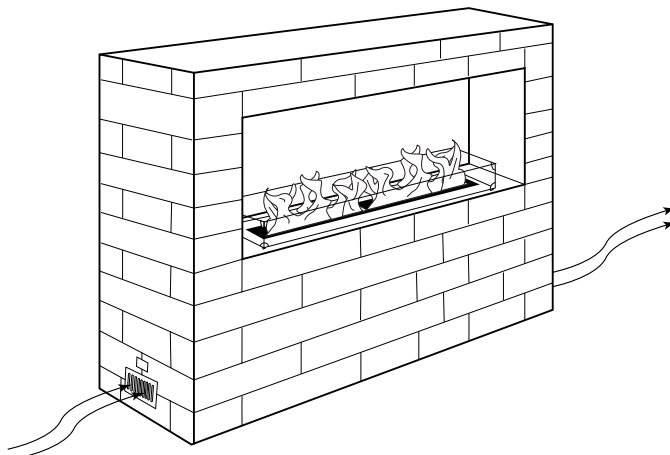

Fig 3. Cross ventilation example providing minimum of 18-square inches per side using Firegear VENT-KIT-6x12SS provided.
9. **CAUTION:** A minimum of 18 square inches of cross ventilation (per side) is required to keep the inside of the enclosure dry. Install the supplied VENT-KIT-6x12SS approximately 3 to 4 inches from the floor centered on each end of the fireplace (See Fig. 3, page 6).
Fireplaces are subjected to many outdoor elements such as rain, snow, wind, heat or cold. **A minimum of 18 square inches of cross ventilation (2 sides) is required to keep the components in good working order.** Use Fig. 3 as a guide.